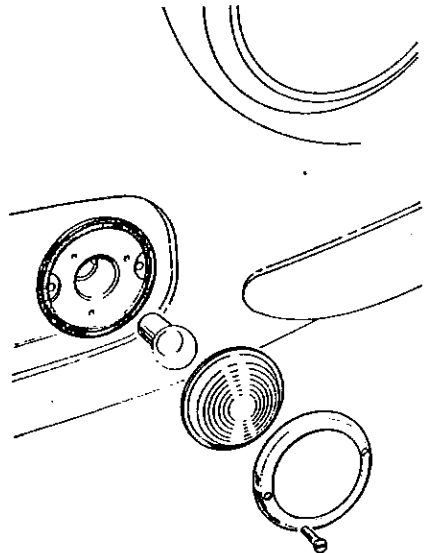

Fig. 55. Front Indicator Bulb Replacement
1. Remove the two securing screws at either side of the indicator lamp housing rim (fig. 55).